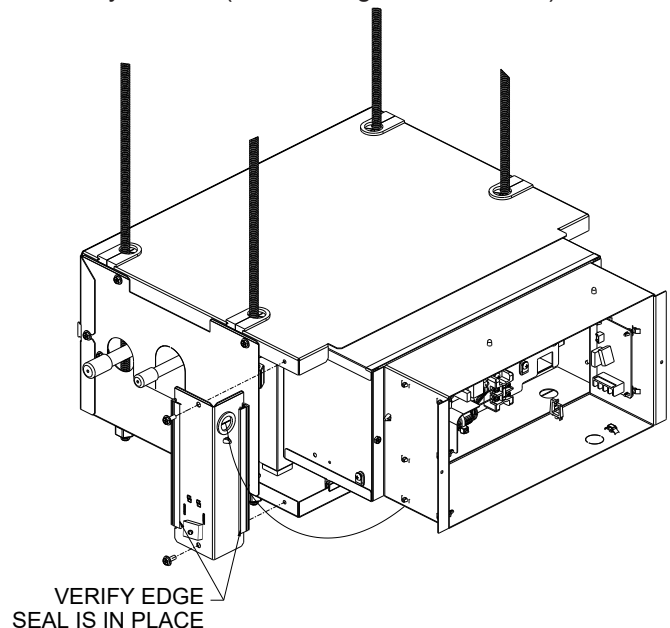

**FIGURE M.4**
**5.9** Install the assembled R-32 Sensor Panel by placing it over the side flanges of the top and bottom panels, then secure it at each indicated location. Ensure the edge seal is correctly seated. (Refer to Figs. M.4 and M.5)